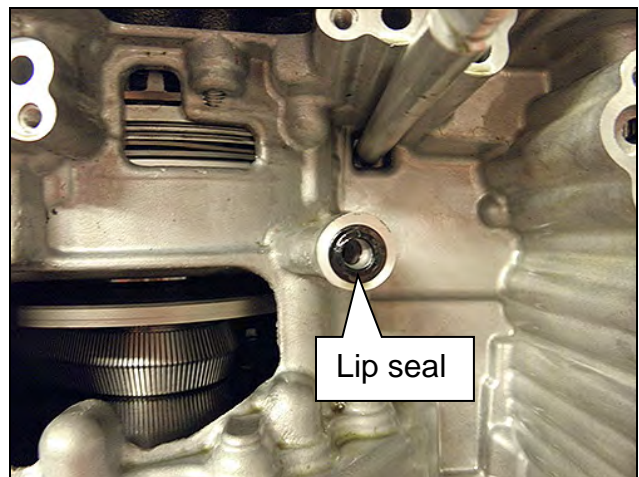

Figure 22
2. Install a new lip seal. Do NOT reuse the old lip seal (Figure 22).